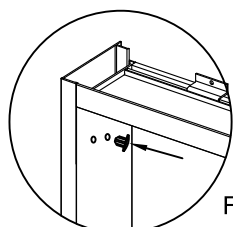

Fig 18
3 .Fill remaining holes with hole plugs (3) (Fig 18). Fill the rest of shelf clip holes with decorative covers (13) (Fig 19).